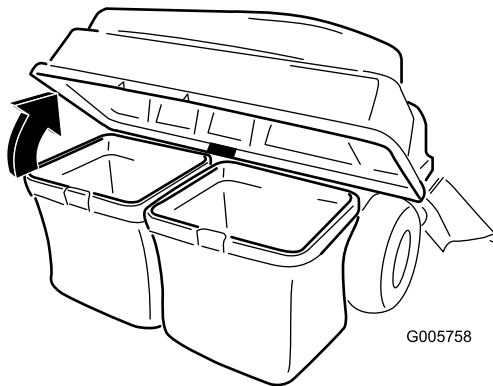

Figure 24
3. Open (raise) the bagger top (Figure 24).